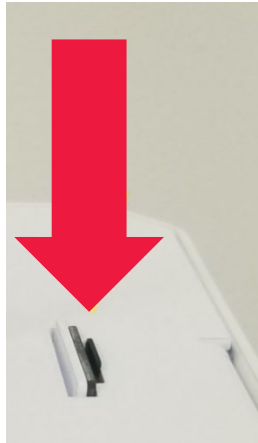

Figure 68: Inserting the MicroSD Card
3. When fully and properly inserted, the fins on the mandrel should be flush with the end of the foam blank. Refer to Figure 68.
4. Ensure the mandrel is properly installed by confirming the engraved line at the left side of the mandrel is flush with the end of the chuck, as seen in Figure 68. To avoid movement on the rotation axis, confirm the mandrel has been installed straight.